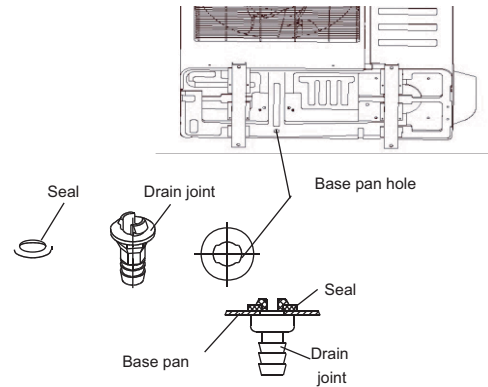

Fig. 13 —Drain Joint
1. Completely tighten flare nuts A, B, C, D, connect the manifold gage charge hose to a charge port of the low side service valve (see Fig. 13).